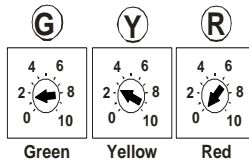

FIGURE 6
11. Remove the door from the Fi2000 box to expose the LED's. The pot settings on the Fi2000 must be set to match the proper intake and exhaust configuration - Refer to Figure 6 and the **Advanced Tuning** section to determine the proper configuration. Once the proper pot setting have been chosen set the pot dials using a small flat blade screwdriver. Verify the wire connections by (1) turning the ignition on, prior to starting, and see if all three LED's are on steady. If you have no light, your ground connection (BLACK wire) has not made proper contact or the injector connections are not complete. (2) After achieving a steady light from all three LED's, start the motorcycle, wait 15 seconds and let it idle, the green light should now be the only LED on. If all three LED's are still on after start up, verify you have attached the injector connectors correctly. Reattach the door when finished. **Note:** Make sure the ignition is turned off before changing any connection.
Your Cobra® Fi2000 fuel injection module has been tested and preset for best function and rideability on a motorcycle with aftermarket aircleaner and Cobra slip-on mufflers. If your motorcycle has a different intake and exhaust configuration please read below for the appropriate pot setting, and change the pot dials to these settings. Remove the door to expose the pots shown in Figure 6. The Fi2000 does have 3 important adjustments that allow you to tune the module for optimum performance, especially if you have performed other changes to your motorcycle. These adjustments also allow you to resolve drivability issues if our stock settings are not exactly right for your bike. Make sure your motorcycle is up to normal operating temperature (15 minutes of riding should be sufficient) before making any adjustments.
Typically our full exhaust headpipe systems require one additional increase, however we recommend starting with the settings in Figure 6, and then adjusting the yellow and red pots, should the engine exhibit lean characteristics.